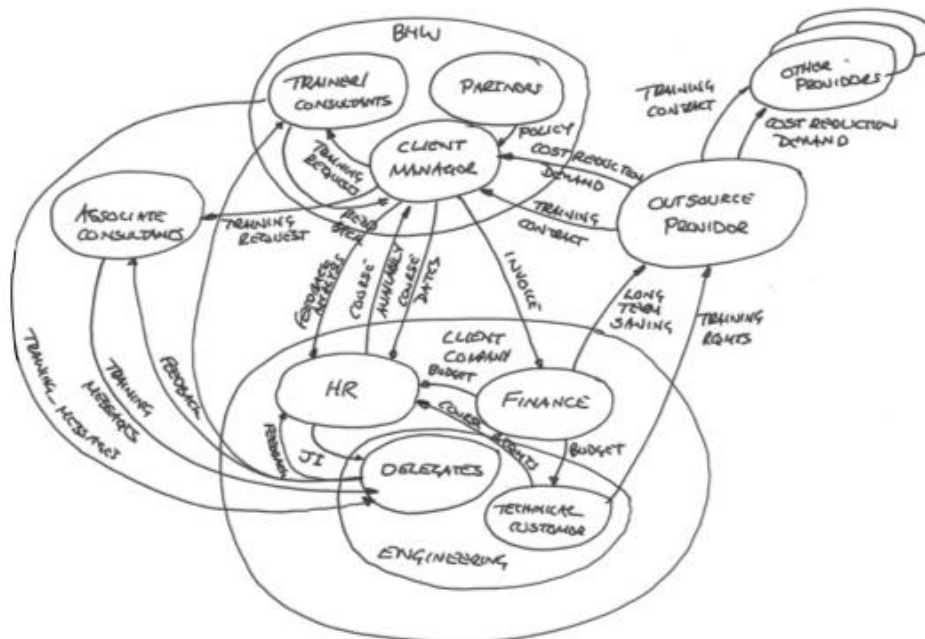

Figure 1: An Influence Diagram for a supply chain situation
An Influence Diagram (ID) is a tool for identifying and capturing the important relationships or influences that exist between the elements of a system. Figure 1 shows an example Influence Diagram constructed to understand the relationships and interaction between groups of people and individuals in a complex supply chain situation.
The content of Figure 1 will be described in more detail later. Its purpose here is to show the overall format and elements of an Influence Diagram. It is very similar in construction to a Systems Map [1] with groups of system elements. It differs in that the diagram also shows the important relationships and interactions between the groups and elements.
Figure 1 is an Influence Diagram of an aspect of my Training and Consultancy Company. It was drawn to capture and understand the interactions of between my company, BHW, a client company, the client company's outsource provider, other competitor providers and our associate trainers. It started life a Systems Map, but with no environmental elements. This was a deliberate choice because I wanted to focus on the internal elements of my company and the client company. Exposing levels of detail like this is perfectly acceptable (although I am on the upper limit of Miller's 7 ± 2). Note also that the arrows are all tangible.
Figure 1 has proven useful on several counts. Firstly, it does present a simple business model that can be used to explain how we operate and how some clients chose to operate. This model is particularly useful in explaining to new staff the typical interactions. Moreover, as a baseline model, it is easy to see how other clients interact with us, particularly if we put names the various elements. It also highlights what information is needed and the interfaces between the elements which in turn helps us without ISO9001 accreditation.